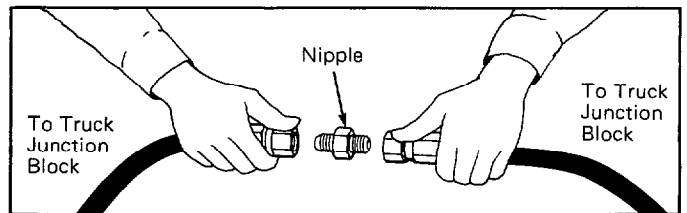

Figure 3. Flushing the Hoses
- a. Connect the hoses ends together using a nipple. See Figure 3.